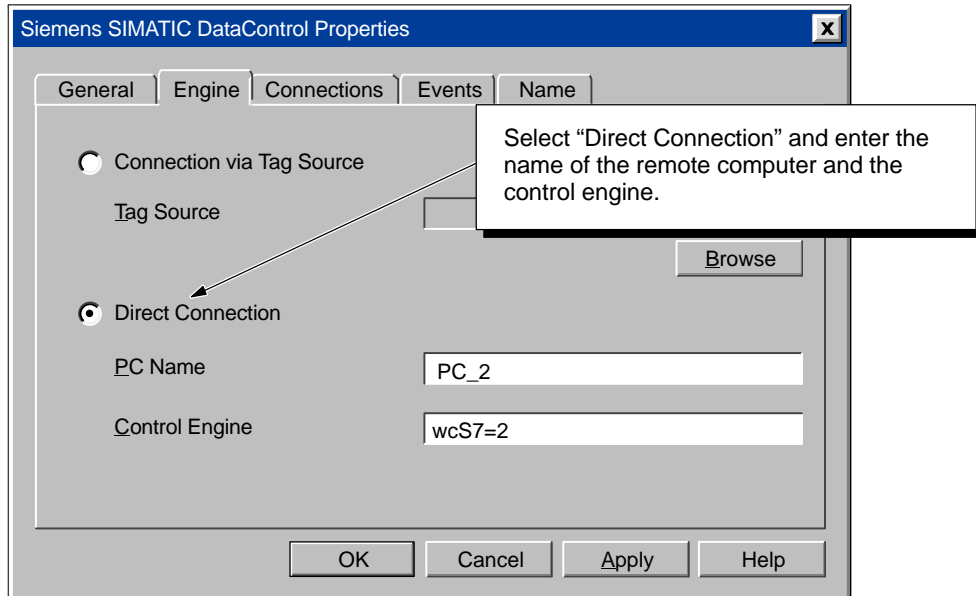

Figure 4-4 Configuring DCOM for a Control Engine
3. Select the "Direct Connection" option. See Figure 4-4.